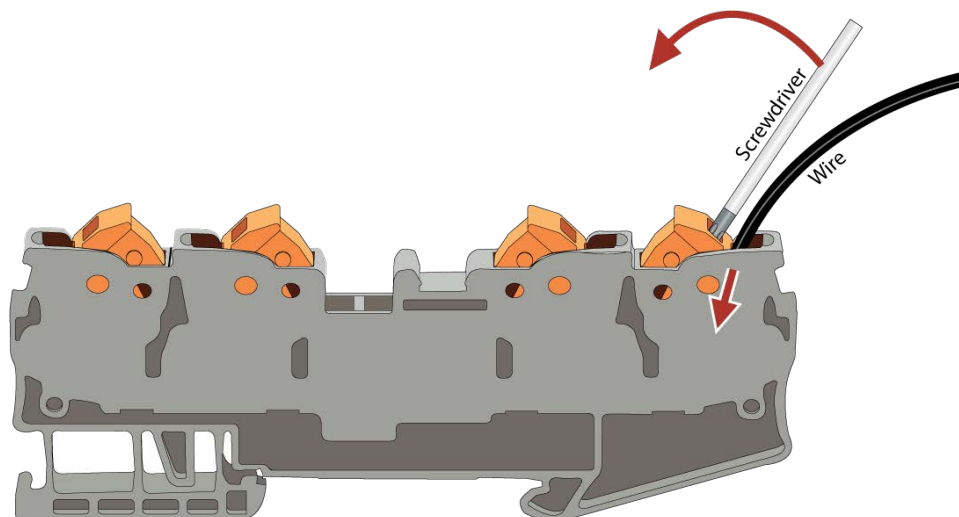

Figure 1-9: Terminal Block Quick Connect
3. Connect the external user-supplied AC supply at TB1 (⊕), TB2 N (L2), and TB3 L (L1). Refer to Table 1-6, Figure 1-9, and Section 2.2.1.